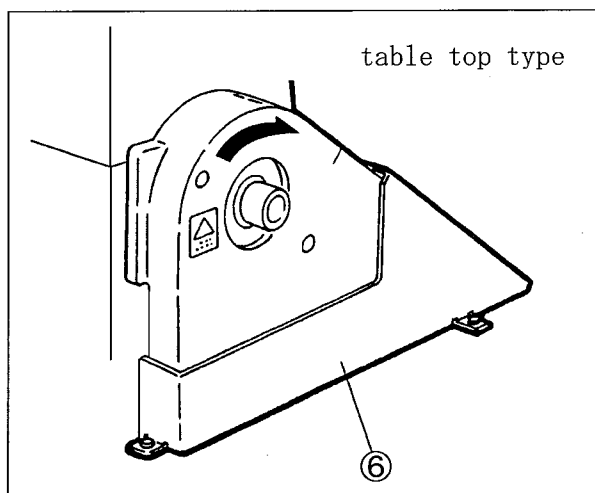

Fig. 2-11
- (2) Fix the belt cover(lower) ⑥ on the machine table only for table top type. (See Fig. 2-11)